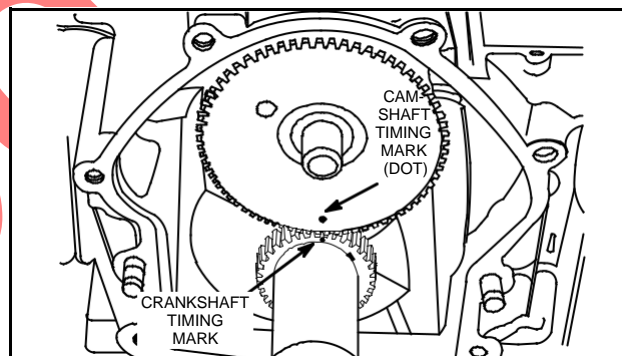

Fig. 3 – Remove Crankshaft – Plain-Bearing Models
2. Rotate crankshaft until timing marks line up, Fig. 3.